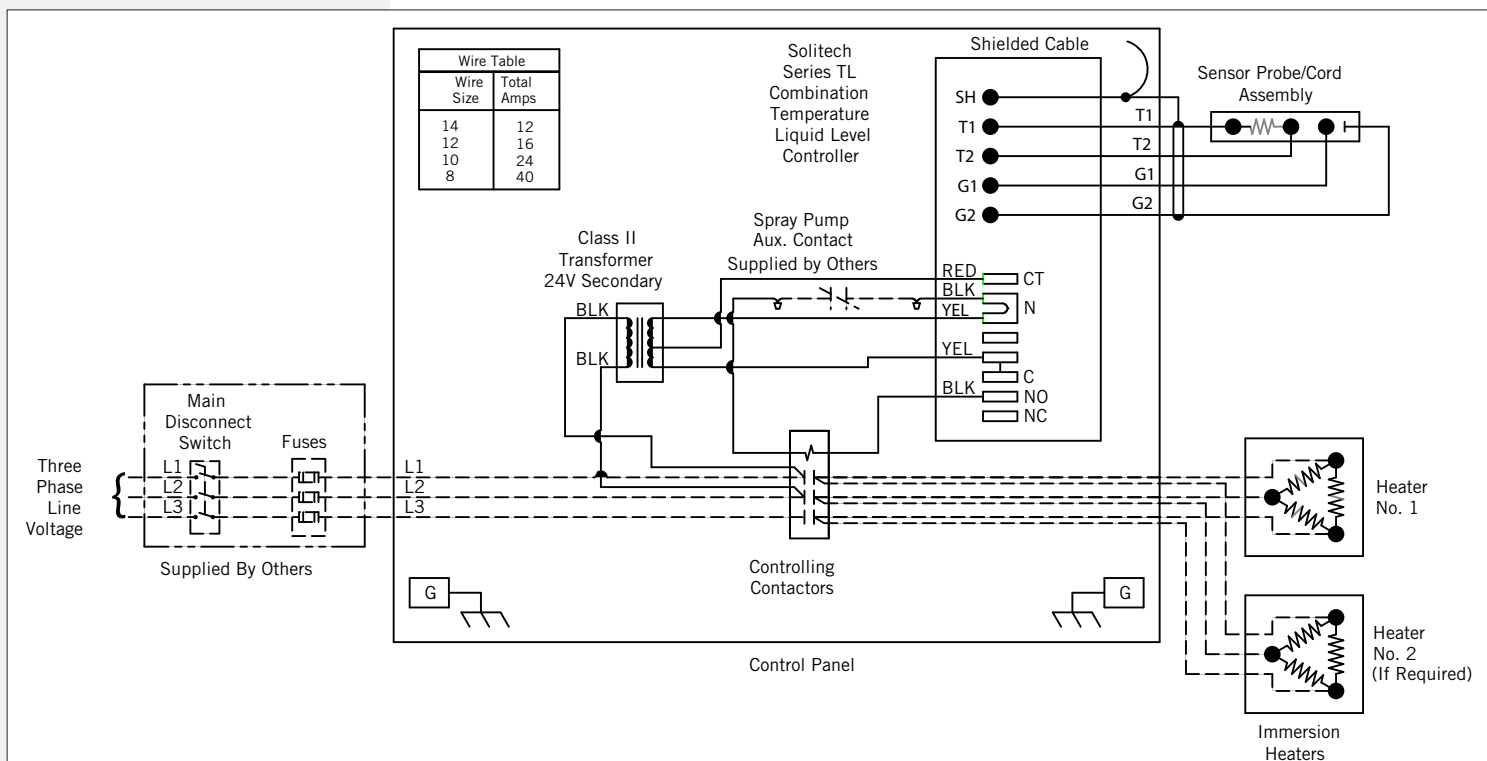

Figure 12. Example Wiring Diagram for Stand Alone BAC Heater Control Panel (Refer to Submittal Drawing for Specific Wiring Diagram)
**NOTE:** Figure 12 is superseded by any drawing supplied with the panel by the manufacturer.